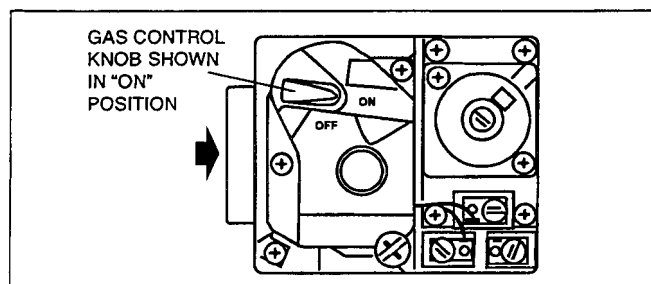

Figure 14. Example of gas control knob.
- h. Wait five (5) minutes to clear out any gas. If you then smell gas, STOP! Follow the safety information above. If you don't smell gas, go to the next step.
- i. Turn the gas control counterclockwise  until it stops, release the knob, then turn counterclockwise  to "ON" (see Fig. 14).